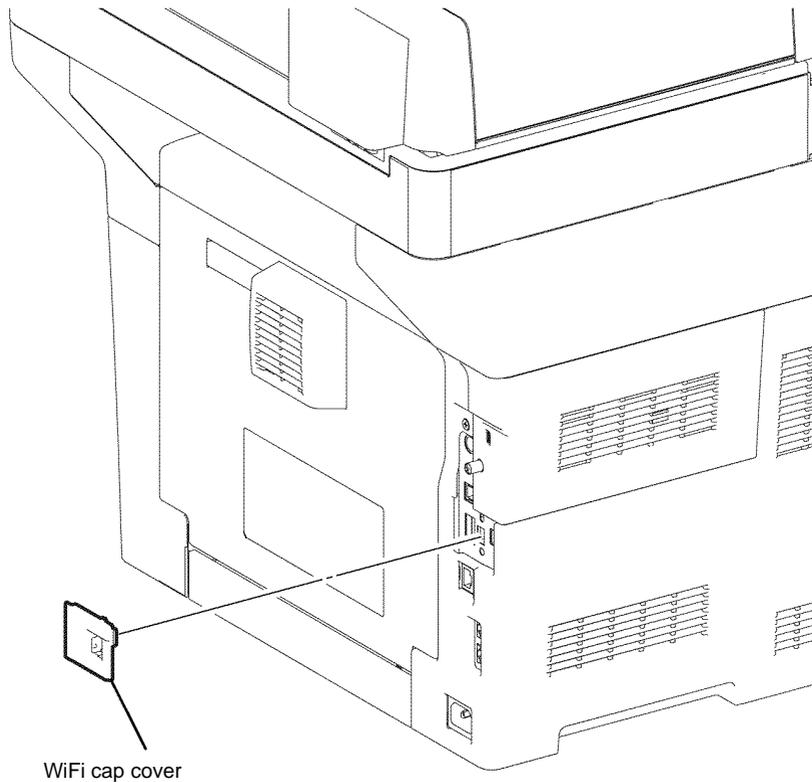

Figure 1 WiFi cap cover removal
1. Push the lever and remove the WiFi cap cover, Figure 1.